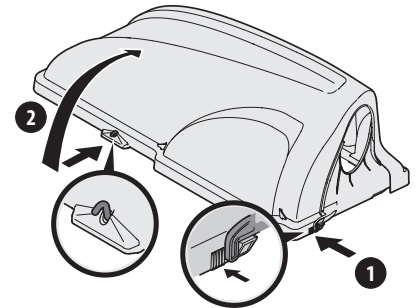

Figure 13
7. Open hood by pushing in on the rear, right-side tab with your right hand, as seen in 1 of Figure 13, and lifting the cover with your left hand in the center rear of the bagger cover, 2.